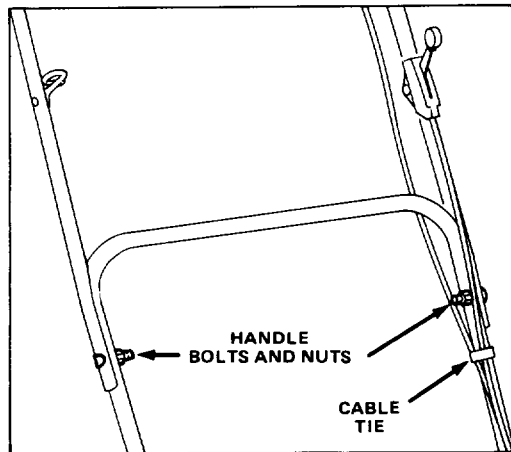

Figure 2
2. UPPER HANDLE (Fig. 2) – Secure upper and lower handles in place with handle bolts and locknuts. Control cables must be in front of lower handle cross member. Secure control cables in position with cable tie.